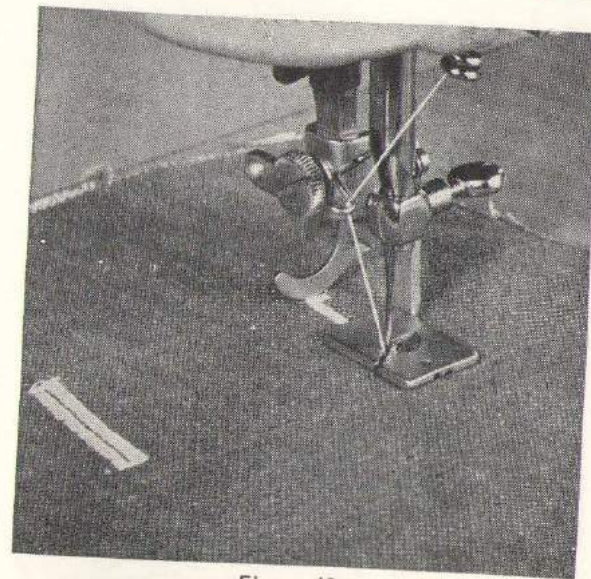

Fig. 43
- 2) Replace the presser foot for button hole sewing. (Fig. 43).